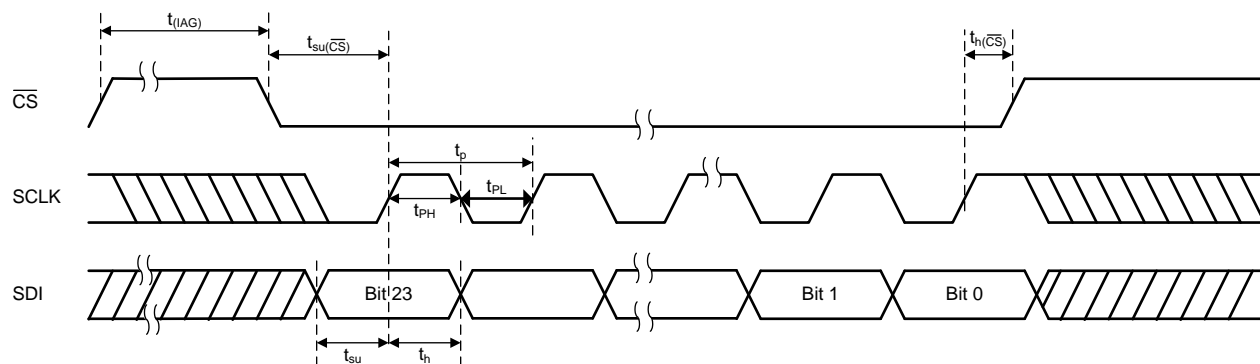
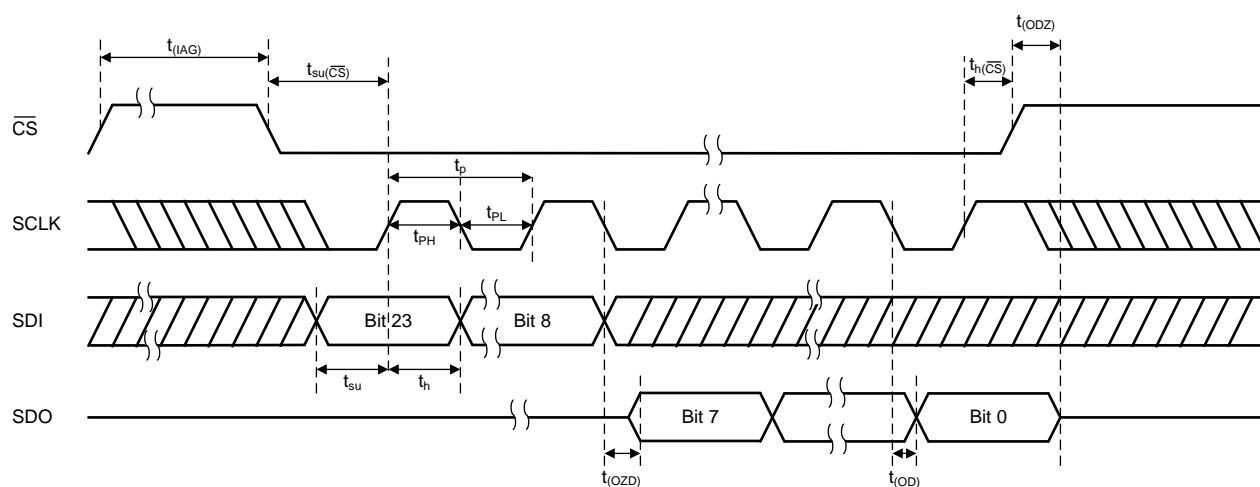

Figure 1. Serial Interface Write Timing Diagram
Figure 2. Serial Interface Read Timing Diagram
(1) Specified by design and characterization. Not tested during production.
(2) See Figure 1 and Figure 2.
(3) SDO loaded with 10 pF load capacitance for SDO timing specifications.
(4) See Figure 2.
(5) Specified by design; not subject to production testing. See the ADC Sequencing section for more details.